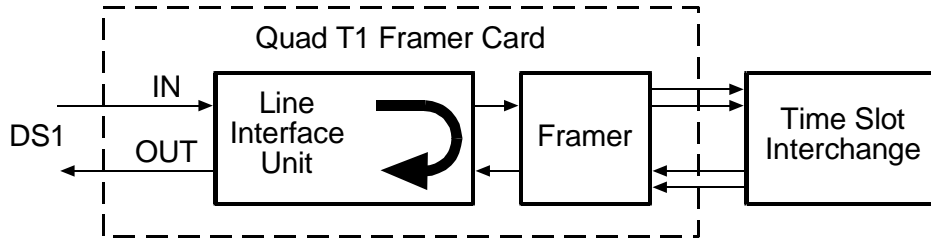

Figure 18-28. DS1 Line Loopback
**Purpose:** Provides line loopback to verify that the DS1 signal is reaching the Access Navigator's Quad T1 Frammer card. The line loopup command creates a connection inside the Line Interface Unit (LIU), causing it to loop the DS1 receive (input) back to the transmit (output). See Figure 18-28.
**Purpose:** This is a near-end maintenance command is used to enable CSU line loopback testing of the Access Navigator. When loop request code detection is turned on, the Access Navigator will respond to T1.403 defined in-band CSU bit patterned line loopback requests. See Figure 18-28. On drop DS1s with ESF framing and T1.403 FDL protocol, the Access Navigator will also respond to out-of-band (FDL) loopback requests.